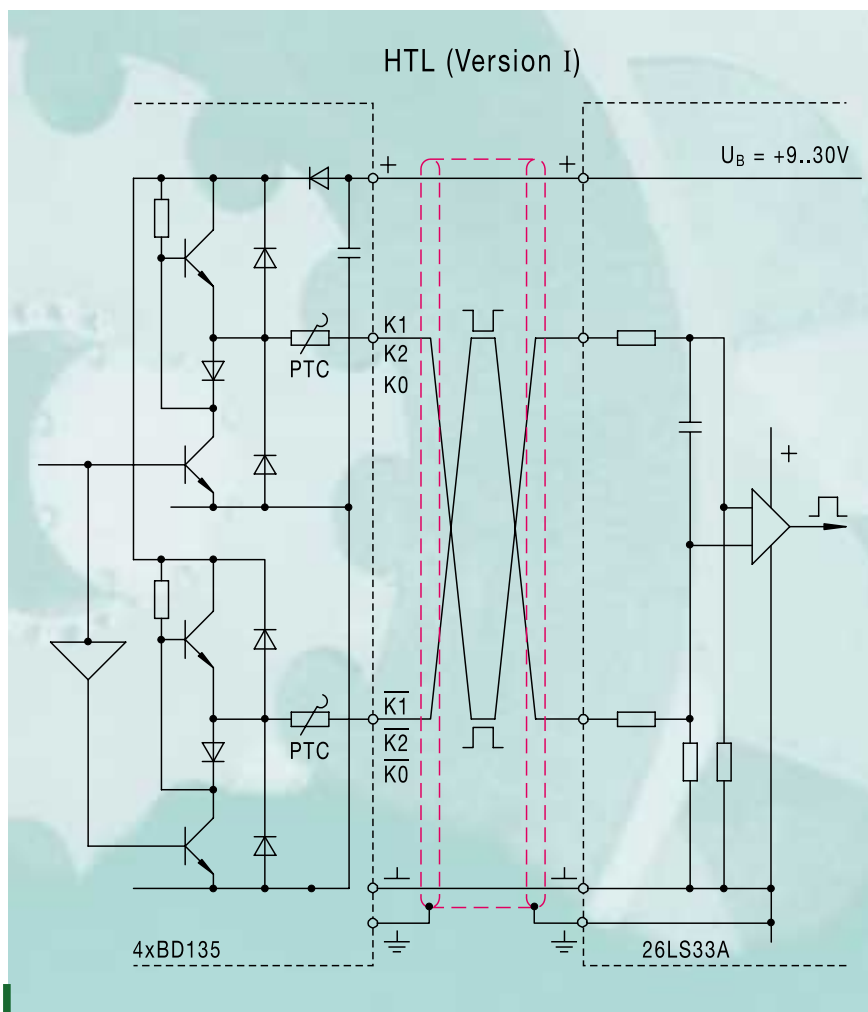

Figure 8: HTL technology with inverted signals: for the best possible transmission reliability.
■ **HTL ... I** technology with **inverted signals**: For the transmission of signals over very long cables, HTL technology is also available with inverted signals as an option. Twice the number of power transistors are provided (➡ Figure 8).